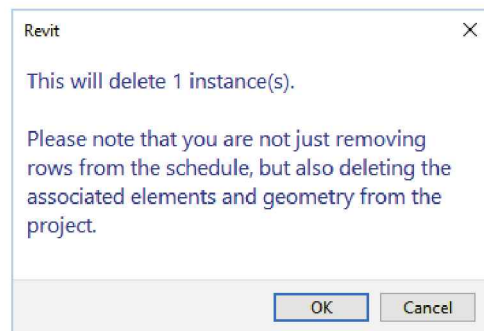

FIGURE 12-2.8 Revit alert message
You will get an alert. Revit is telling you that the actual door will be deleted from the project model (Figure 12-2.8).
15. Click **OK** to delete the door (Figure 12-2.8).